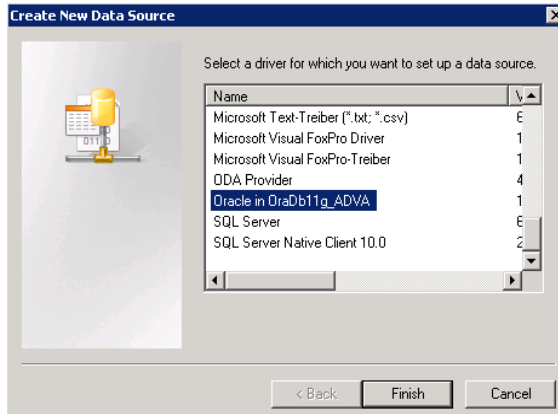

Figure 51. Create New Data Source Dialog Box
3. Click **Add** to display the Create New Data Source dialog box shown in Figure 51.